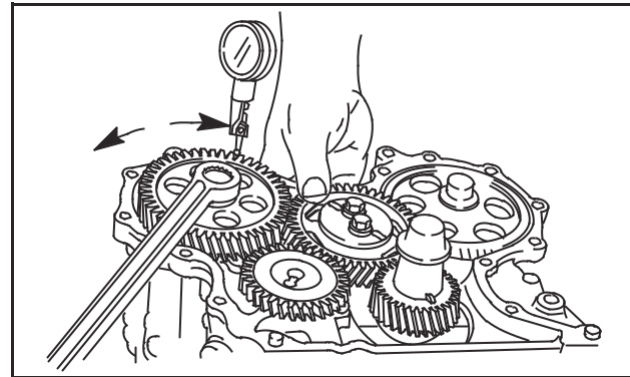

Fig. 9 – Checking Injector Pump Timing Gear Backlash
4. Hold idler gear as shown and check gear backlash between injector pump timing gear and idler gear using dial indicator, Fig. 9.